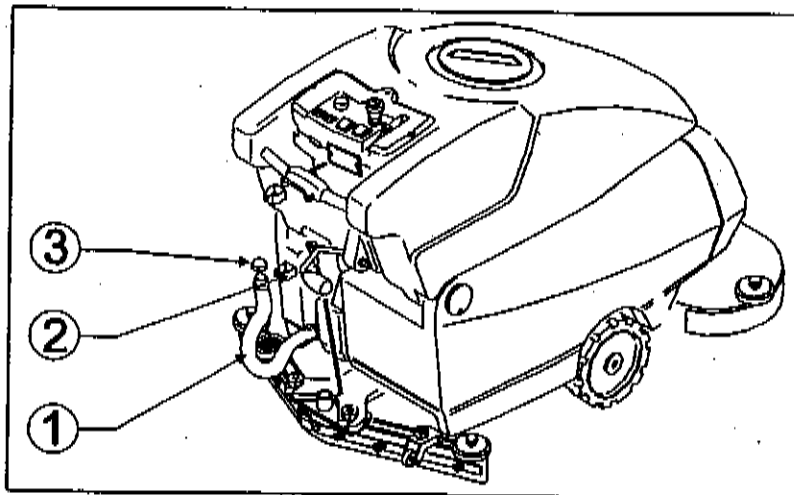

Fig. 13
- detach the drain hose (fig. 13, ref. 1) from its seat, holding it in correspondence with the fixing spring (fig. 13, ref. 2) and pull it horizontally;
- keeping the hose end as much high as possible, take off the drain cock (fig. 13, ref. 3) from the hose by unscrewing it;
- when the contents have been totally drained from the solution tank, close the drain hose with the cock (fig. 13, ref. 3) screw-tightening it; check that it is perfectly closed and refit the hose in its housing.